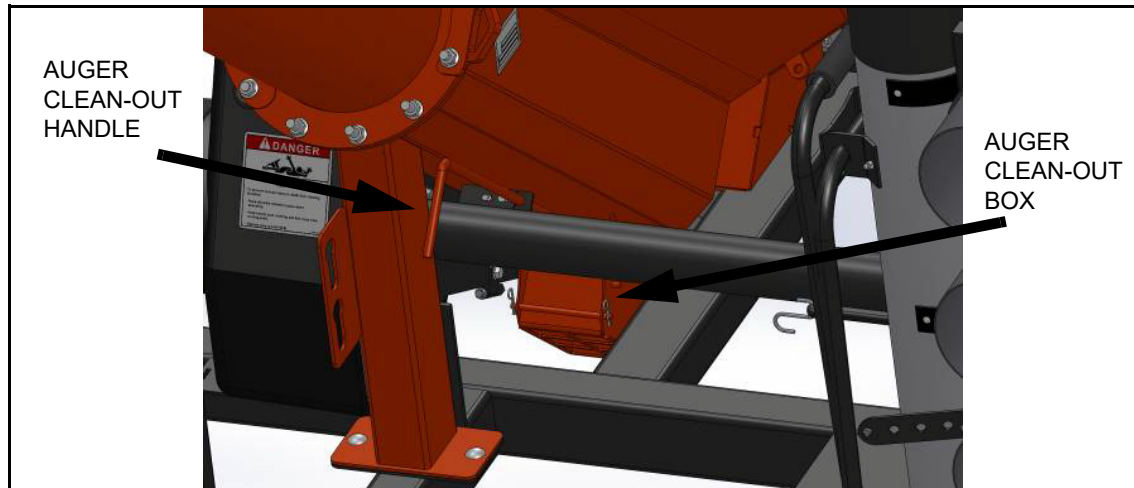

Figure 7.3 Auger Clean-Out Box
6. Open the clean-out door at the bottom of the auger and clean out all residual grain left in the bottom (see Figure 7.3). The clean-out door should be left open so water can drain out.